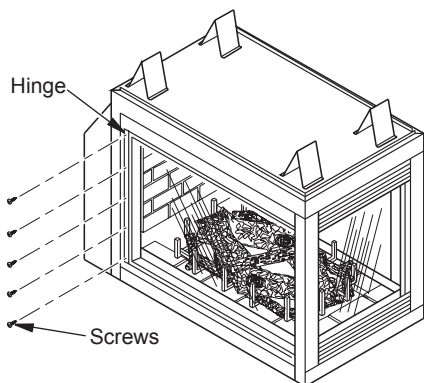
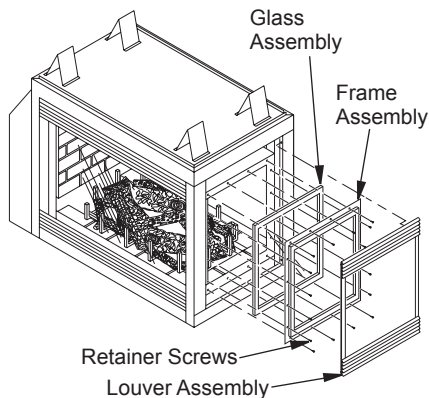

Figure 53 - Removing Glass Door
Figure 54 - End Panel Replacement
3. If replacement is necessary, the entire assembly (frame and glass) must be replaced. If glass is broken, wear gloves and tape remaining fragments onto the frame. Remove 5 screws located on end of firebox while holding frame assembly to prevent it from falling and causing injury (see Figure 53). Mount new frame at hinge with 5 new screws. Close and latch door. This will seat the gasket. If replacing end glass panel, remove 16 screws around frame (see Figure 54) To insure proper fit, when installing new glass panels make sure seam in gasket is placed in the down position.